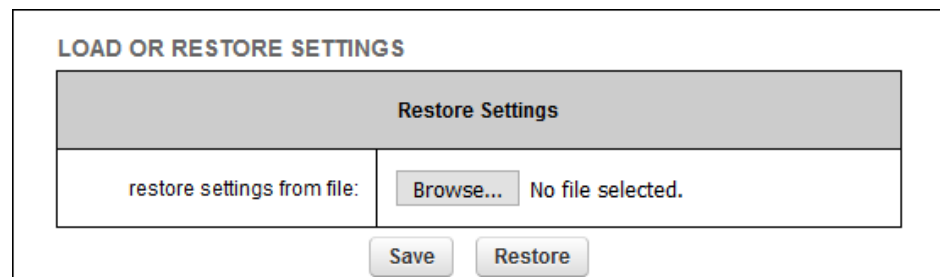

Figure 53. Configurator GUI (LOAD OR RESTORE SETTINGS dialog)
- The **LOAD OR RESTORE SETTINGS** dialog will be shown (Figure 53 \(page 98\)).